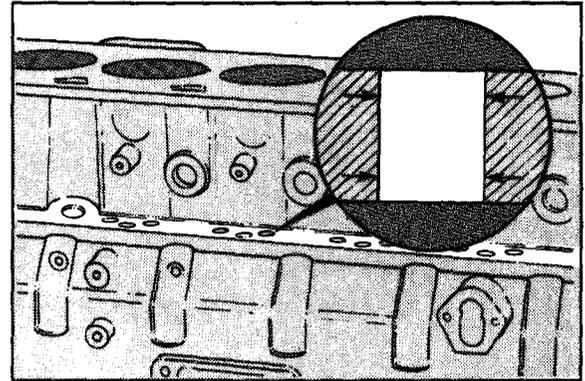

Figure 6-9
15. Inspect tappet bores for scoring or excessive wear. Minimum diameter should be 0.630 in. (16.00 mm) and maximum should be 0.632 in. (16.05 mm) (Figure 6-9).